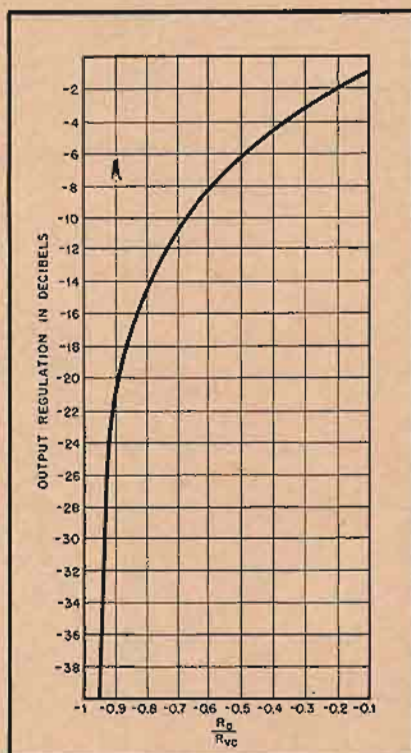

Fig. 4. Curve showing output regulation for varying ratios of amplifier output impedance to speaker voice-coil impedance.
But additional figures on this same subject are of interest. How far is it practical to go? How well can a speaker be damped with dynamic negative feedback? The graph of Fig. 4 was prepared by
The graph of Fig. 4 and Eq. (1) are additionally useful to the designer for measuring the dynamic negative feedback caused by a particular value of R_f in Fig. 2. Each time the value is changed, the open-circuit and loaded output voltages of the amplifier may be measured and converted to decibels. Reference to the graph will then indicate what portion of the speaker's internal resistance has been cancelled. Knowledge of the speaker's resistance will, of course, indicate the exact value in ohms of the internal resistance of the amplifier.